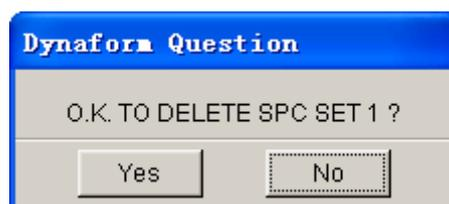

Figure 5.7.8 DYNAFORM Question Window
- Confirm the deletion in the DYNAFORM QUESTION window (Figure 5.7.8).